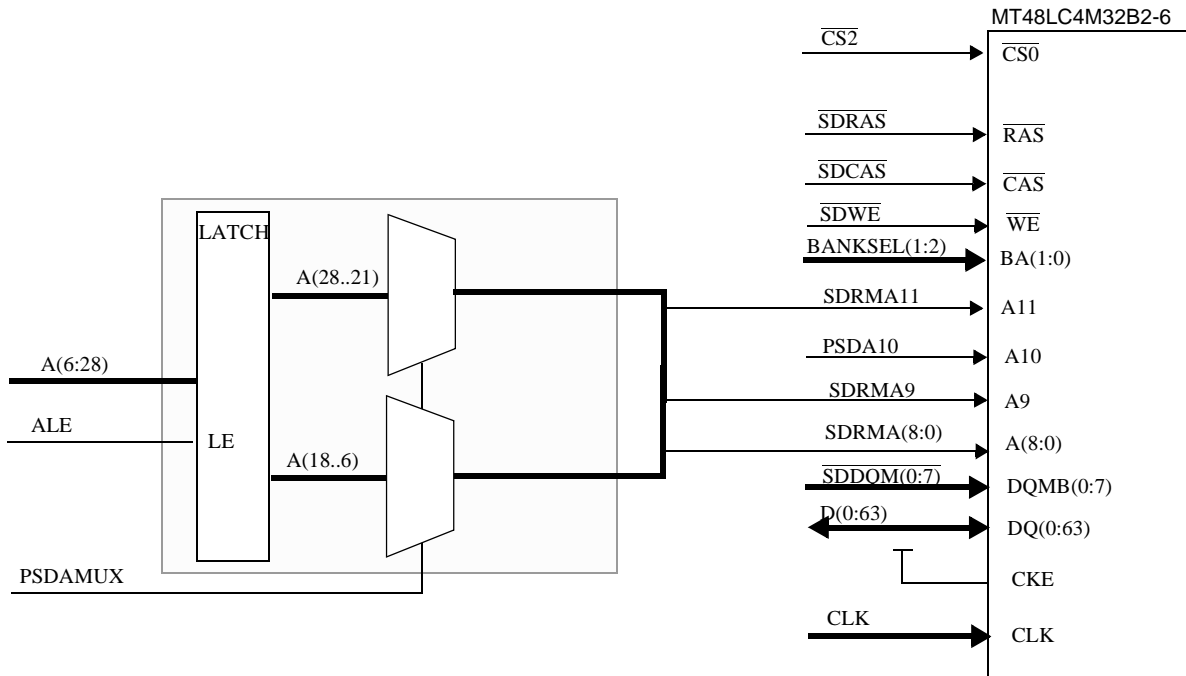

Figure 4-6. SDRAM - 60x Bus Connection Scheme with L2 Cache
The SDRAM connection scheme when L2 cache is installed is shown in Figure 4-6.
1. Optional Latches - Multiplexers are added over selected address lines. See Figure 4-6. These Latches - Multiplexers are normally by-passed by 0 Ω resistors that are not assem-